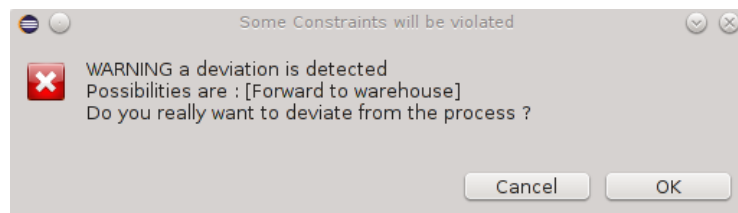

Figure 20 Warning message box for deviation
3. Trying to execute the *Reserve stock* activity at this point triggers a warning message pop-up that this choice constitutes a deviation from the process model, as show in Figure 20 Warning message box for deviation. The user can choose to cancel the chosen execution by clicking on the cancel button. Or the user can go ahead with in spite of the warning to intentionally deviate from the process model by clicking on the OK button. The resulting deviated enactment trace view is shown in Figure 21 Trace view after deviation. The actions marked with a red dot in this view indicates the actions that constituted a deviation.